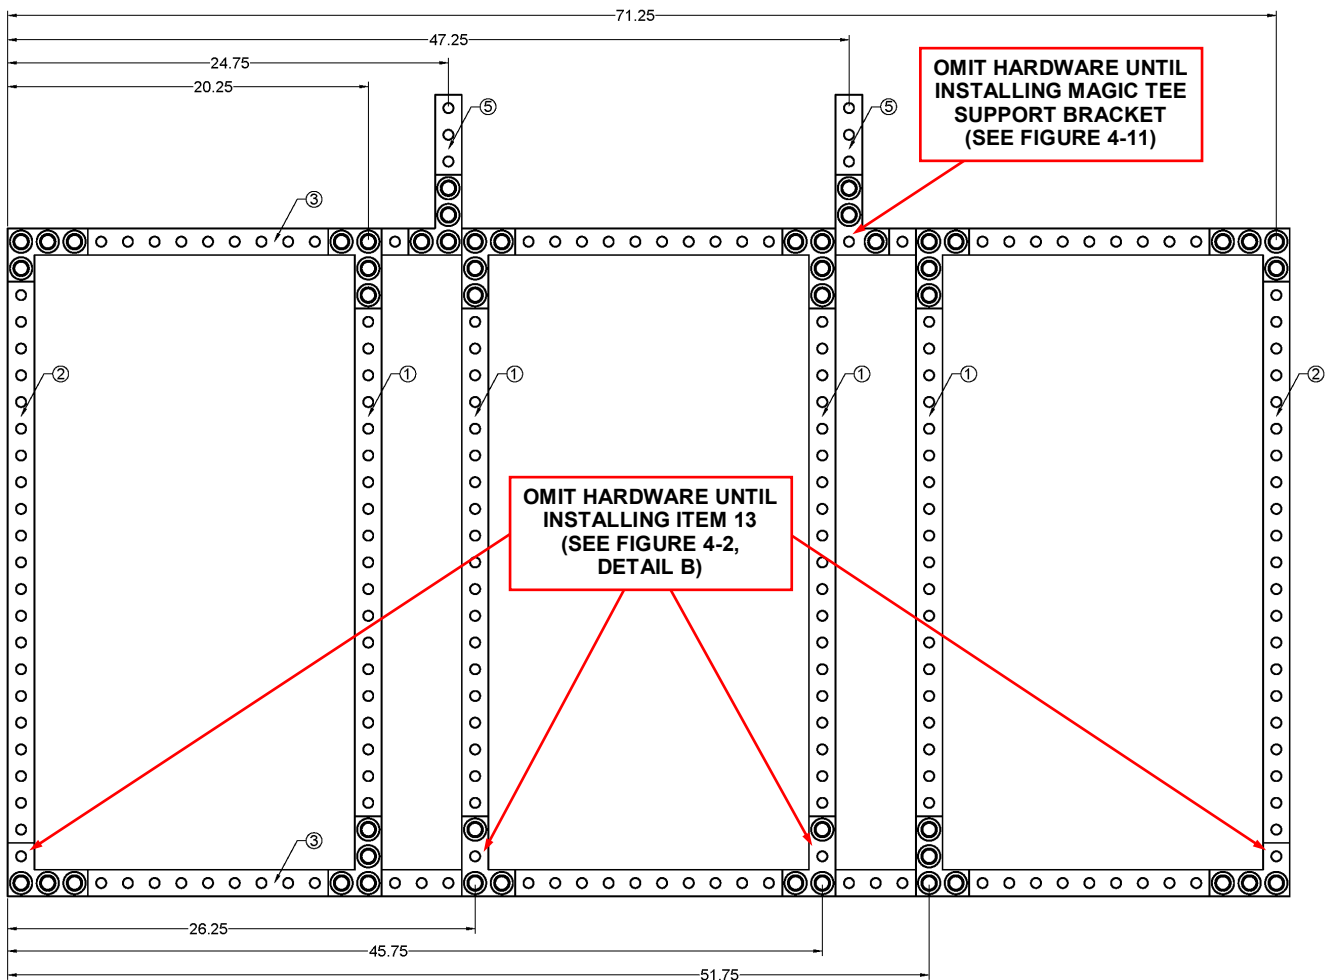
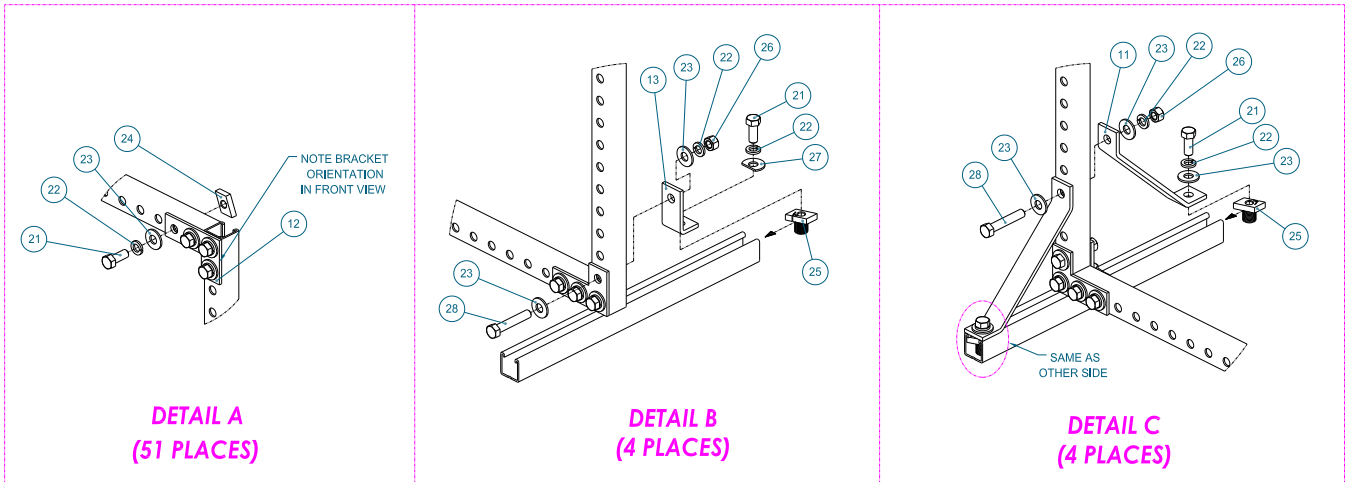
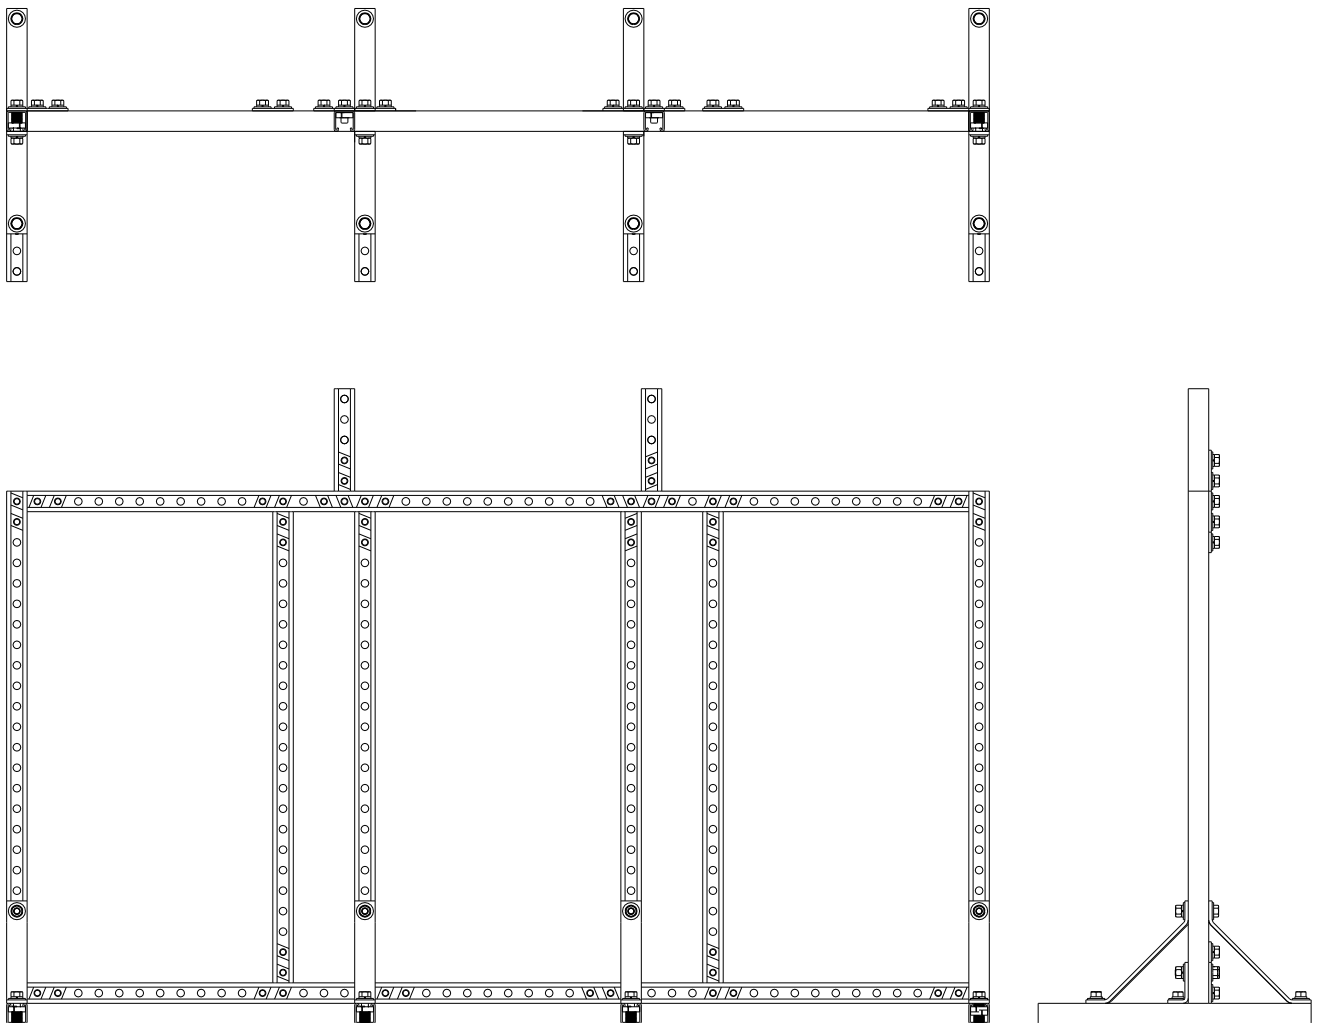

Figure 4-1: Uni-Strut Assembly
Figure 4-2: Uni-Strut Assembly, Hardware Placement
Figure 4-3: Uni-Strut Assembly, Attach Footers
Reference the parts list in **Table 4-1** and **Figure 4-1**, **Figure 4-2**, and **Figure 4-3** throughout the assembly of the mounting frame.
1. Arrange the uni-strut sections (Items 1, 2, 3 and 5) as shown in **Figure 4-1**. Secure the 4-hole L-brackets (Item 12) on the flat side of the uni-strut as shown in **Figure 4-1**, and refer to **Figure 4-2, Detail A** for hardware placement. Note that there are five (5) instances where hardware should not be installed through the L-brackets.
2. Arrange the 20" sections of uni-strut (Item 4) as footers, shown in **Figure 4-3**,
3. Secure the 2-hole angle connectors (Item 13) to the uni-strut base and frame as shown in **Figure 4-3**, and refer to **Figure 4-2, Detail B** for hardware placement.
4. Attach the corner braces (Item 11) to the uni-strut base and frame as shown in **Figure 4-3**, and refer to **Figure 4-2, Detail C** for hardware placement.